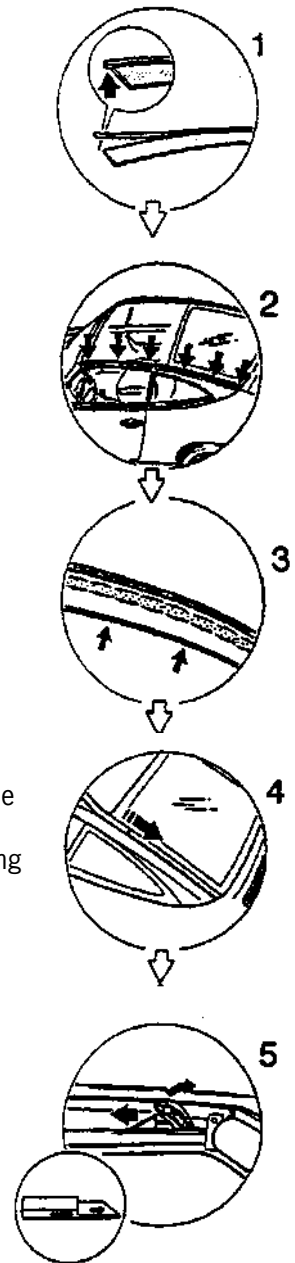

Figure 28
- Install rubber roof seal, the seal must be approx.. 1mm longer in the front and rear (Figure 28, pos.1)
- Apply glue to the inside of the roof rail trim strip (Figure 28, pos. 2). Apply glue approx.. 1mm thick onto the body (Figure 28, pos. 2A - arrow).
- Apply glue approx.. 2mm thick on the back side of the roof trim strip (Figure 28, pos. 3)
- Start the installation of the roof rail strip at the lower corner of the rear window. Light taps with a hammer and leather covered hardwood block may be necessary to fully seat the trim strip along its entire length. (Figure 28, pos. 4)
- Move the special tool 9587 (left and right) with a screw driver to the rear and remove out of the slot (Figure 28, pos. 5).